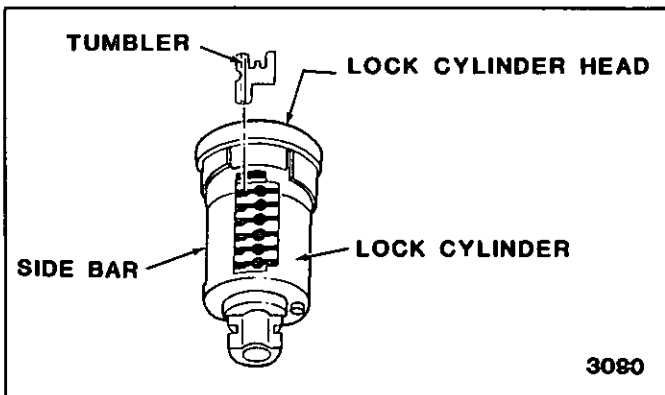

Fig. 1-2 Installing Tumblers
**Assemble (Figures 1-2 and 1-3)**